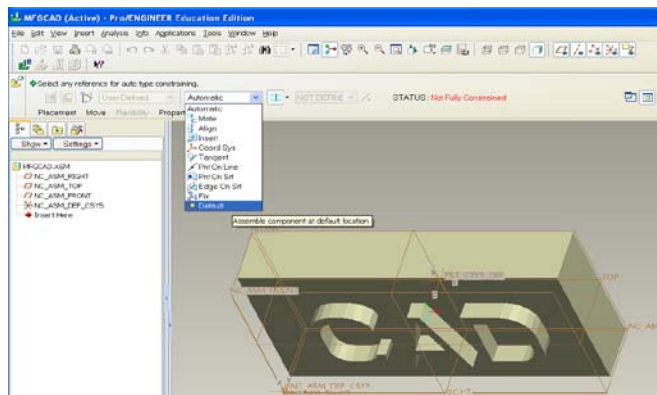
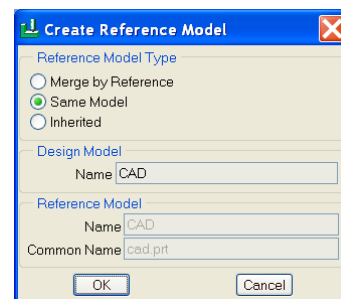

Figure 1.16
Figure 1.17
4. Load the part. From Insert pull down menu, select Reference Model → Assemble as shown in Figure 1.14 & 1.15. Select cad.prt in the open window. The component Placement window pops up. Select  to place the part at default location as shown in Figure 1.16 and click OK. Click OK to close Create Reference Model as shown in Figure 1.17.